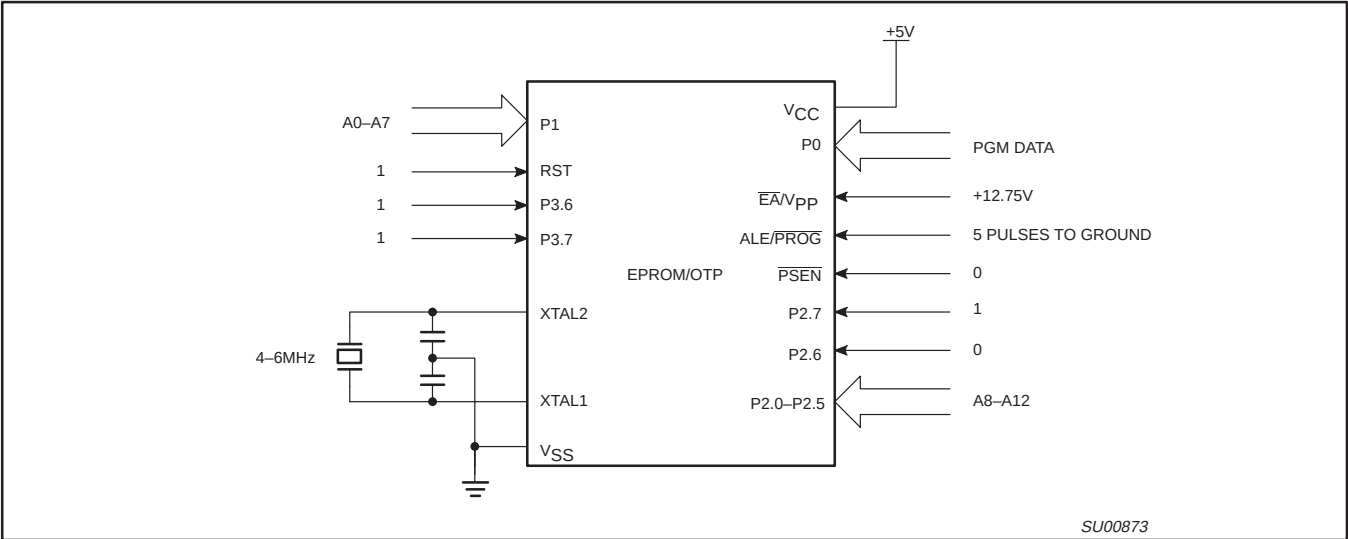

Figure 26. Programming Configuration
Table 8 shows the logic levels for reading the signature byte, and for programming the program memory, the encryption table, and the security bits. The circuit configuration and waveforms for quick-pulse programming are shown in Figures 26 and 27. Figure 28 shows the circuit configuration for normal program memory verification.
The setup for microcontroller quick-pulse programming is shown in Figure 26. Note that the device is running with a 4 to 6 MHz oscillator. The reason the oscillator needs to be running is that the device is executing internal address and program data transfers.
The address of the EPROM location to be programmed is applied to ports 1 and 2, as shown in Figure 26. The code byte to be programmed into that location is applied to port 0. RST, $\overline{PSEN}$ and pins of ports 2 and 3 specified in Table 8 are held at the 'Program Code Data' levels indicated in Table 8. The ALE/PROG is pulsed low 5 times as shown in Figure 27.
- * FOR PROGRAMMING CONFIGURATION SEE FIGURE 26.